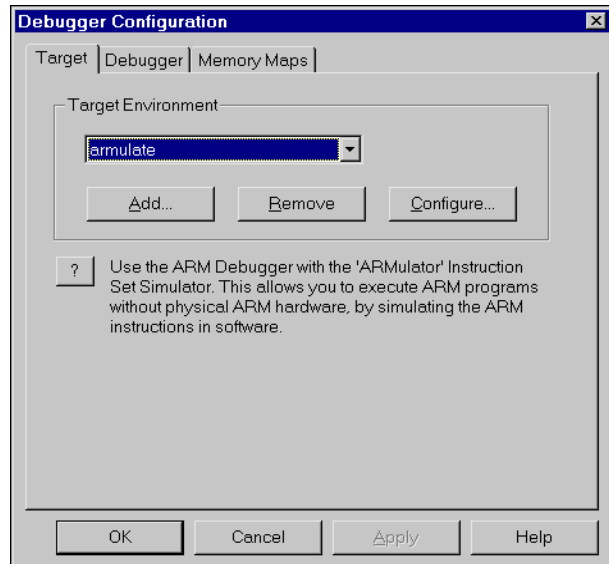

Figure 3-15 Configuration of target environment
1. Click the **Target** tab of the Debugger Configuration dialog (Figure 3-15 on page 3-52).